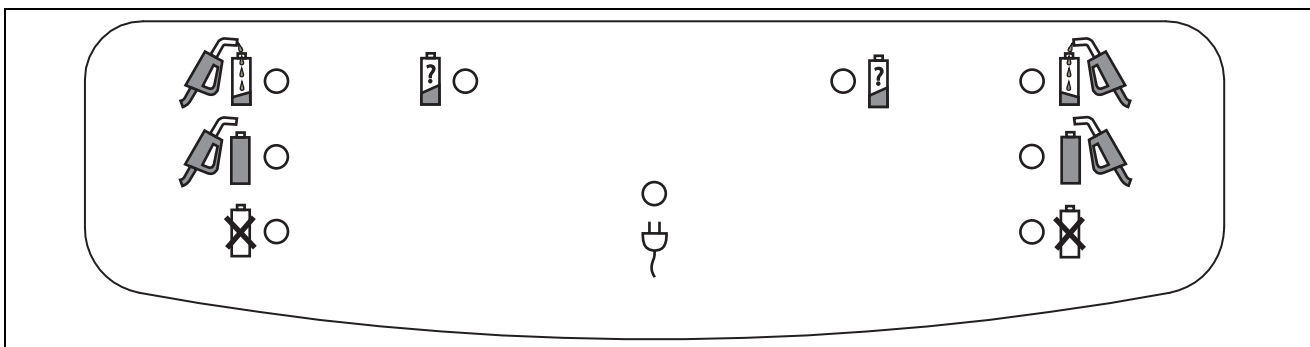

Figure 3-3 Battery Charger Control Panel
3. The Battery Charger's status is indicated on the control panel (see Figure 3-3 and Table 3-1).